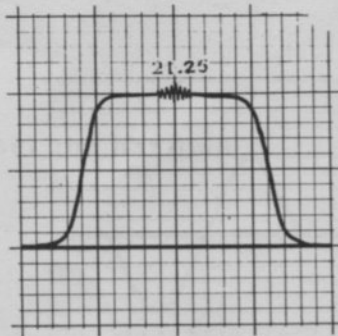

FIG. 15. SOUND IF RESPONSE
14. Turn the SIGNAL switch to UNMOD. R.F. and adjust the F.M. and SIGNAL ATTENUATORS to obtain an i-f response curve similar to figure 15. The curve may be distorted until the next adjustment has been made.
15. Adjust L7 and L6 of figure 11 for a symmetrical response of maximum height similar to figure 15. The marker should appear at the center. Keep the F. M. ATTENUATORS set as low as possible to avoid overloading and keep the SIGNAL ATTENUATORS low to avoid distortion of the response curve at the marker point.